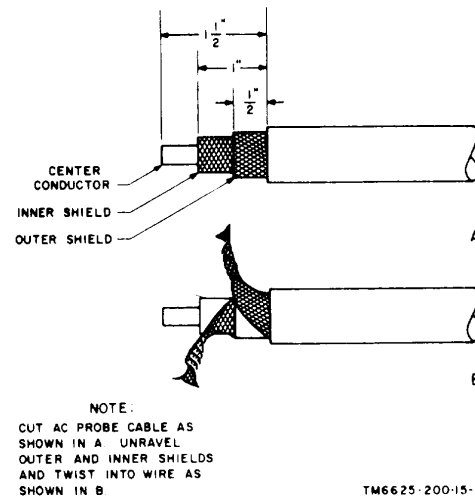

Figure 7-5. Preparation of AC probe cable.
k. Prepare the AC probe cable in accordance with figure 7-5. Mount the AC probe cable in the front panel; use a new strain relief bushing.